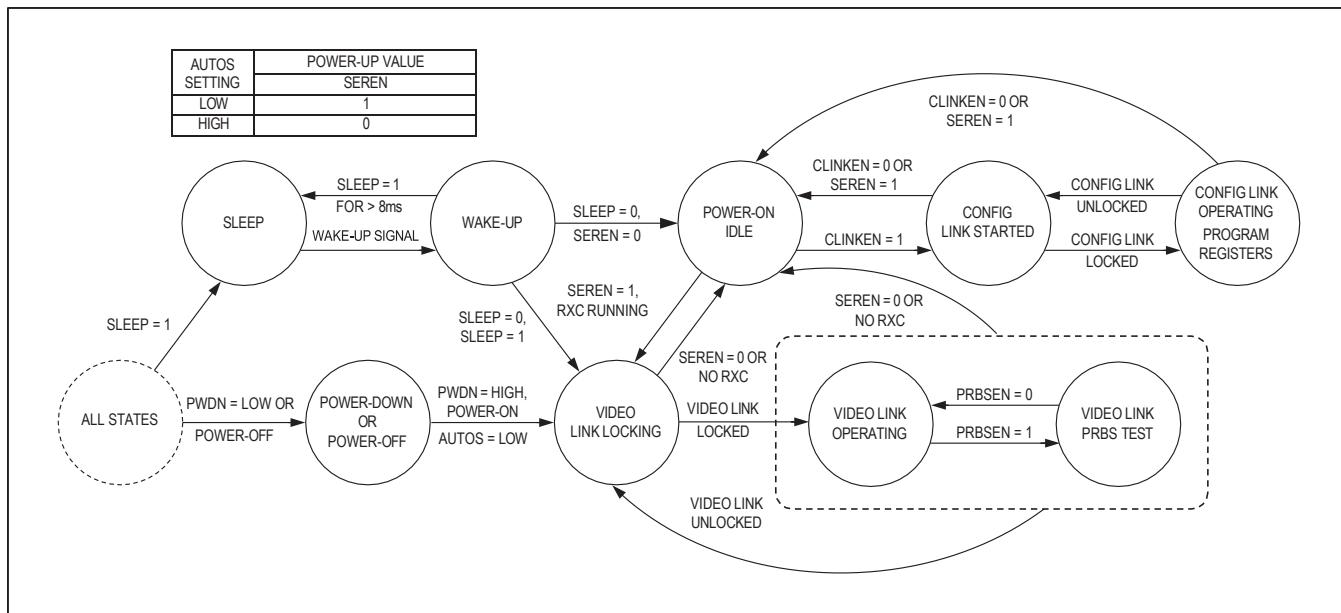

Figure 36. State Diagram, CDS = Low (Display Applications)
**Table 16. Startup Procedure for Video-Display Applications (CDS = Low, See Figure 36)**